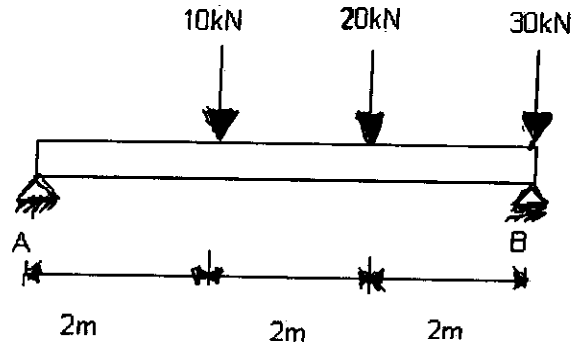

Fig.Q1
- 1 Construct the shear force and bending moment diagram for the loading system given in Fig.Q1. using relevant calculations and sign conventions. [5]